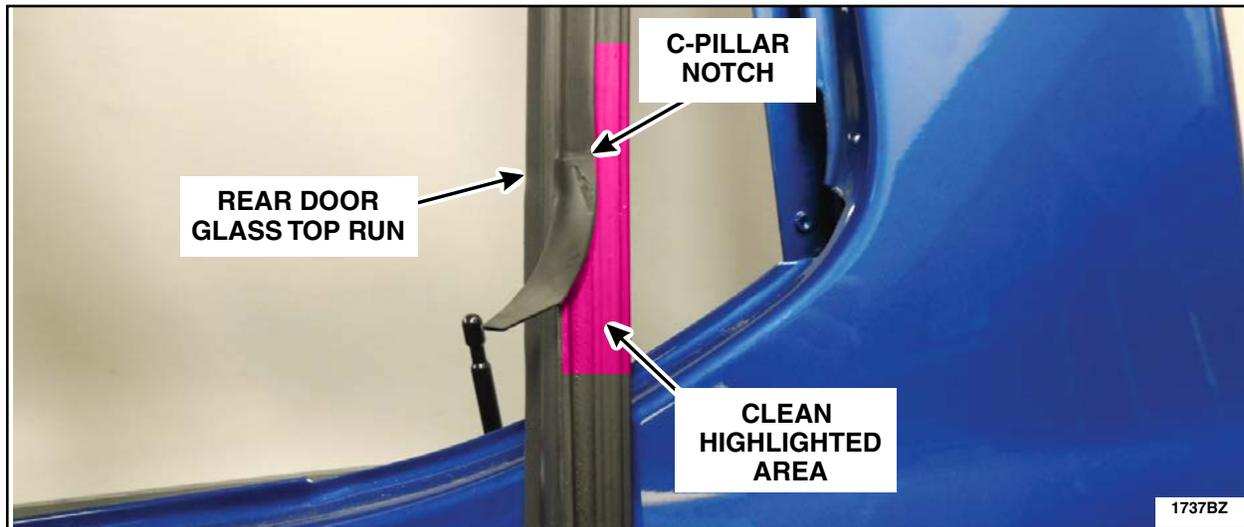

FIGURE 47
18. Using a clean towel and isopropyl alcohol, clean the highlighted area of the rear door glass top run. See Figure 47.